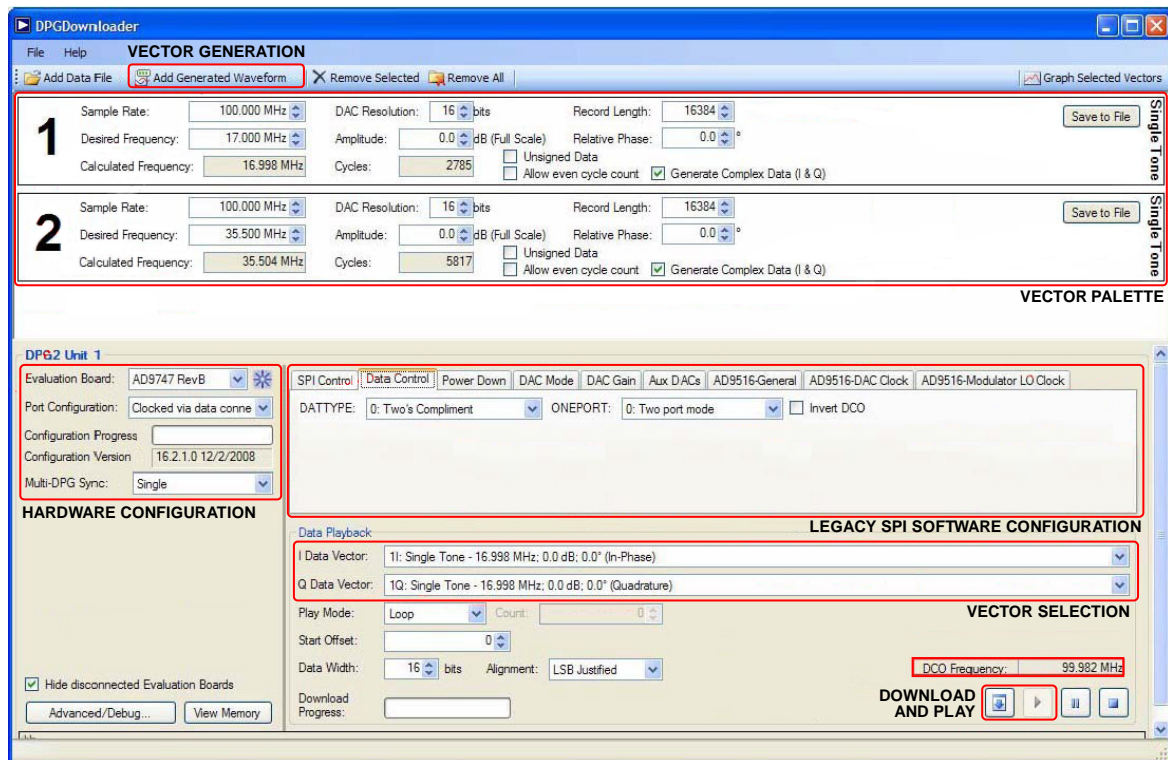

Figure 16. DPGDownloader Window
The basic elements of the DPGDownloader window are labeled in Figure 16 as the **Hardware Configuration Panel**, **EVB Config**, **Vector Generation Pull-Down Menu**, **Vector Palette**, and the **Vector Selection Panel**, as well as the download and play controls.
To generate a sine wave, click the **Add Generated Waveform** menu and select **Single Tone**. Fill in the form as shown in Figure 16 (**Sample Rate** = 100 MHz, **Desired Frequency** = 17.0 MHz, and so on). In the **Data Playback** pane, select the **I Data Vector** and **Q Data Vector**.
2. Select the **AD9516-DAC Clock** tab, select the **Bypass** checkboxes for **Divider 1** and **Divider 2** to bypass the clock dividers on the AD9516-0 to AD9516-5 (see Figure 16).